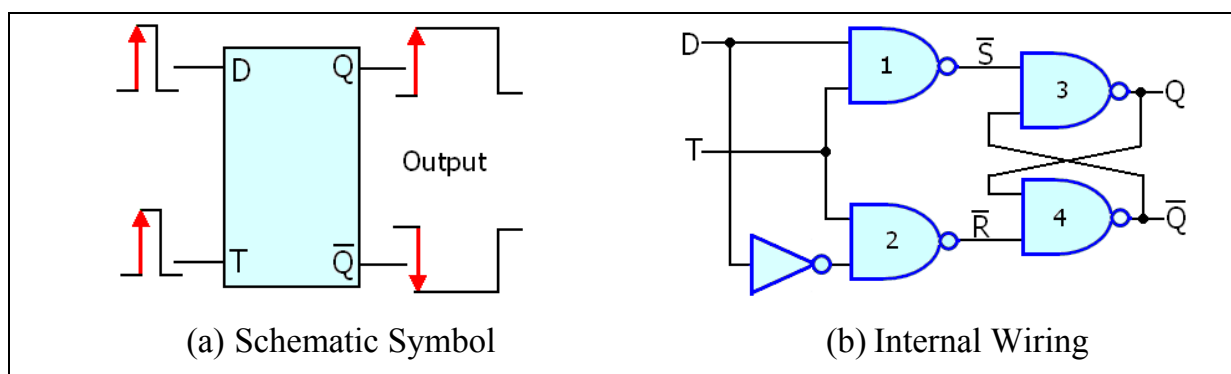

Fig. 3.3-9 D-Type Flip/Flop using NAND Gates
As shown in Fig. 3.3-9 for schematic symbol in (a) and internal wiring in (b), the D-type flip-flop has data input (D) and clock input (T) with complementary outputs Q and  $\bar{Q}$ .